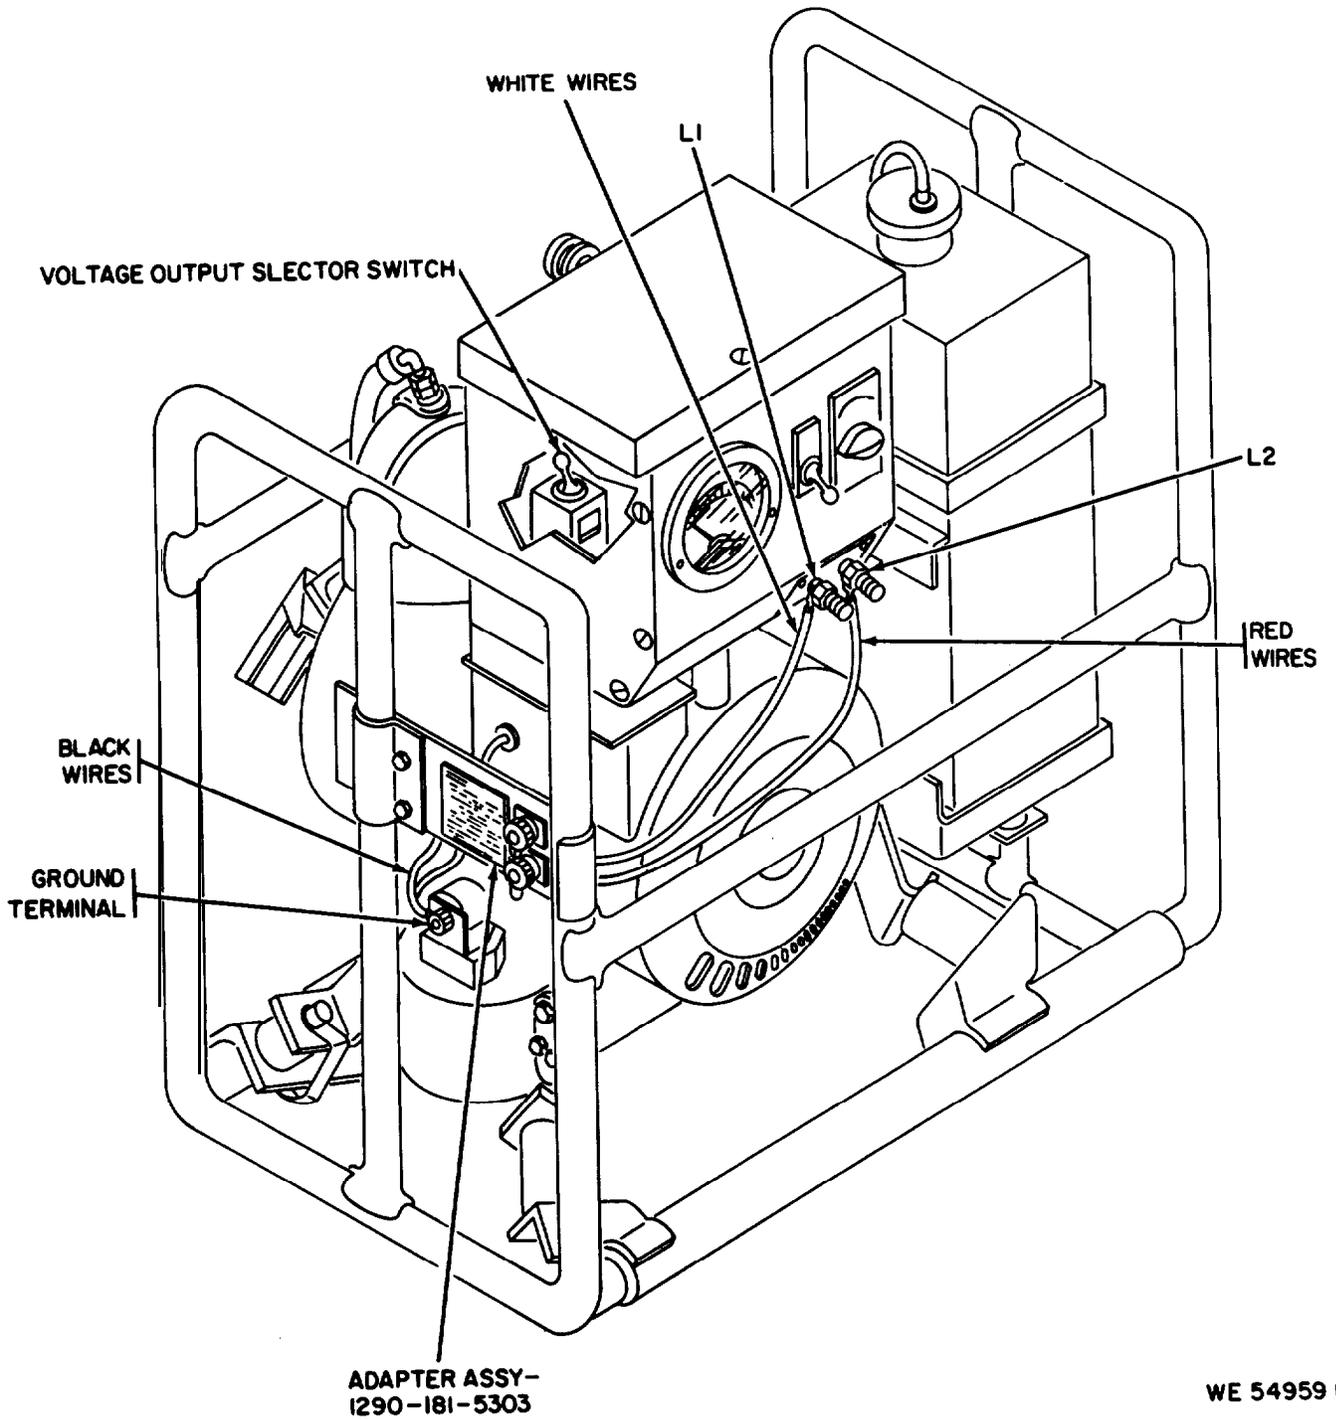
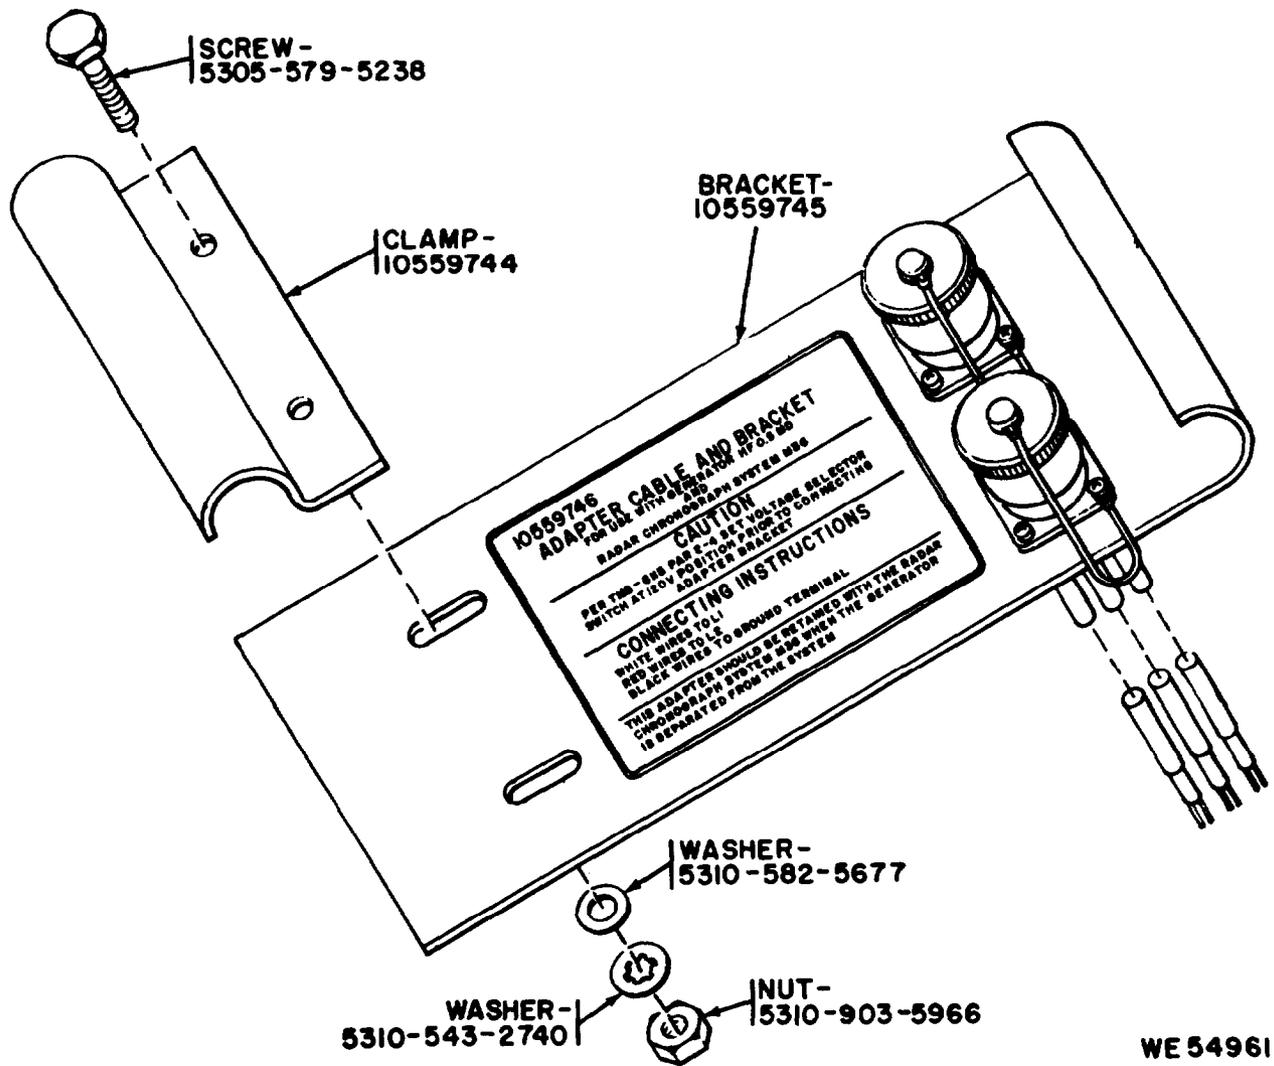

Figure 2-24. Generator Set HF-0.5 MD.
Figure 2-24.1, Adapter Assembly-partial exploded view.
c. Generator Set HF-0.5 MD. The generator set (fig. 2-24) is used to power the chronograph set operation. The generator is driven directly from the model 1A0 8-111 engine. It is a 0.5 kilowatt, 120 or 240 volt, 400-cycle, a.c. single phase, generator, fully radio interference suppressed and fungus-proofed.
(fig. 2-24.1)
Prior to connecting adapter assembly electrical leads to engine generator, place the generator voltage output selector switch (fig. 2-24) to the 120 volt position to prevent damage to the Radar Chronograph electrical circuits.
a. Install bracket 10559745 (fig. 2-24.1) on frame of generator set 6115-917-7354 as shown installed in (fig. 2-24).
b. Install clamp 10559744 and secure with two screws 5305-579-5238, two flat washers 5310-582-5677, two lock washers 5310-543-2740 and two nuts 5310-903-5966 (fig. 2-24.1).
(1) Connect two white wires to generator set terminal L1.
(2) Connect two red wires to generator set terminal L2.
(3) Connect two black wires to generator set ground terminals.
Plate instruction 10559747 (fig. 2-24.1) indicates proper connecting instructions of wire leads to engine generator output terminals.